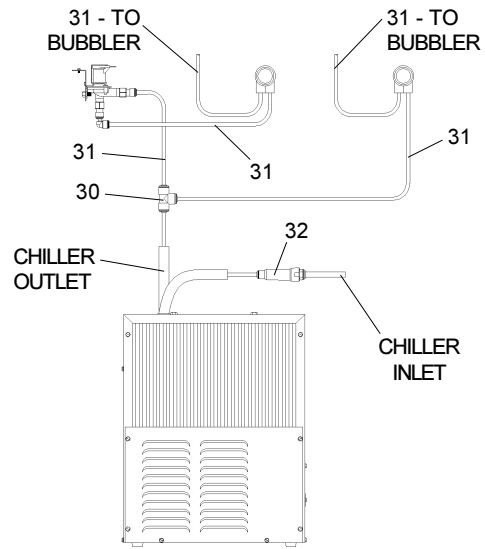

FIG. 8
3. **ENOA MODELS:** Make connection between remote chiller and building supply line. Inlet port is marked on the chiller (1/4" O.D. copper tube). Bend the copper tube (provided) at an appropriate length from chiller to opening in frame. Install the in-line strainer (provided with chiller) by pushing it in until it reaches a positive stop, approximately 3/4" (19mm) on the marked chiller inlet port. Connect building supply line to strainer. **DO NOT SOLDER TUBES INSERTED INTO THE STRAINER AS DAMAGE TO THE O-RINGS MAY RESULT.** (See Figure 8)
5. **Install** the fountain. Remove access cover plate on underside of fountains and save the screws. Mount the fountain to the upper panel and the wall frame with (4) 5/16" x 3/4" (19mm) long bolts and nuts (provided). Tighten securely.
7. **ENOA MODELS:** Make connections between remote chiller outlet tube and fountain. Outlet port is marked on the chiller (1/4" O.D. copper tube). Install a 1/4" tee (provided) on the marked chiller outlet port. Insert the 1/4" poly tubing coming from the fountain into the tee. Turn on water supply and check for leaks. **DO NOT SOLDER TUBES INSERTED INTO THE TEE AS DAMAGE TO THE O-RINGS MAY RESULT.** (See Figure 8).
11. **Mount** lower panel. Loosen the (2) #10-24 x 5/8" (16mm) screws at frame bottom lip. Slide upper tongue of lower panel under lower edge of already installed upper panel. Tighten previously loosened screws securely.